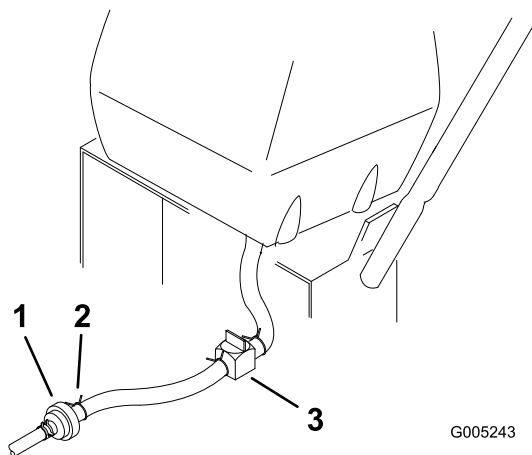

Figure 23
3. Close the fuel-shutoff valve at the fuel tank (Figure 23).
4. Squeeze the ends of the hose clamp together and slide it up the fuel line away from the fuel filter (Figure 23).
5. Pull the fuel line off the fuel filter (Figure 23).